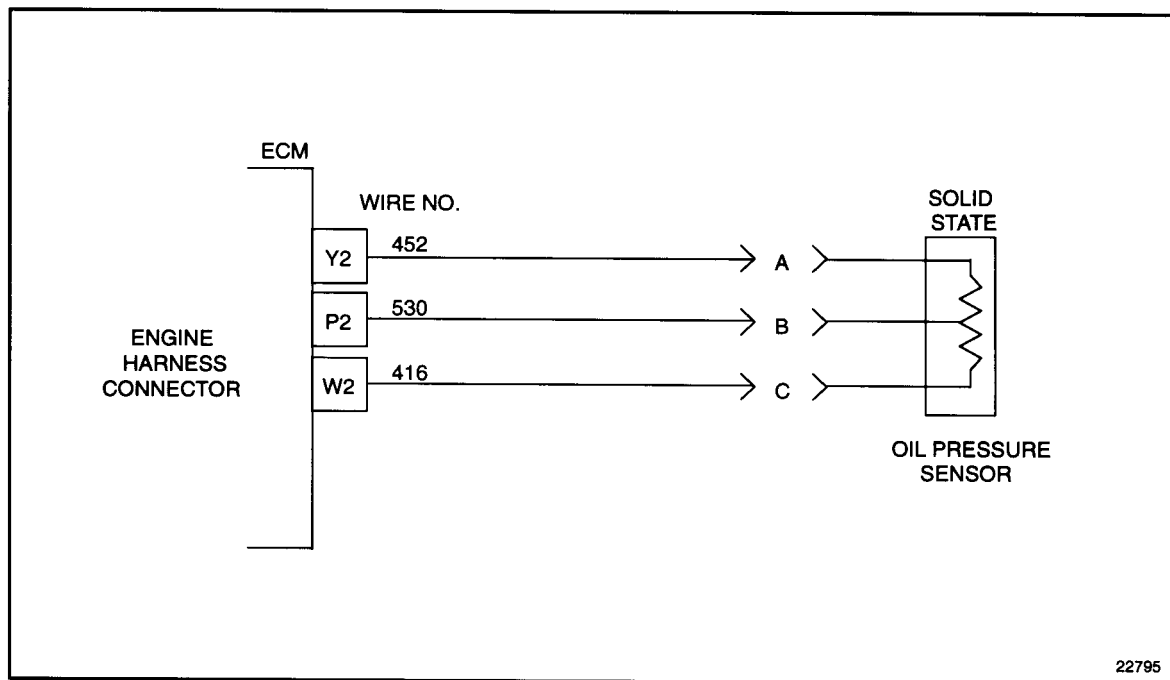

Figure 36-5 Engine Harness Connector to Oil Pressure Sensor
3. Measure resistance between sockets P2 and Y2 on the engine harness connector. See Figure 36-5.